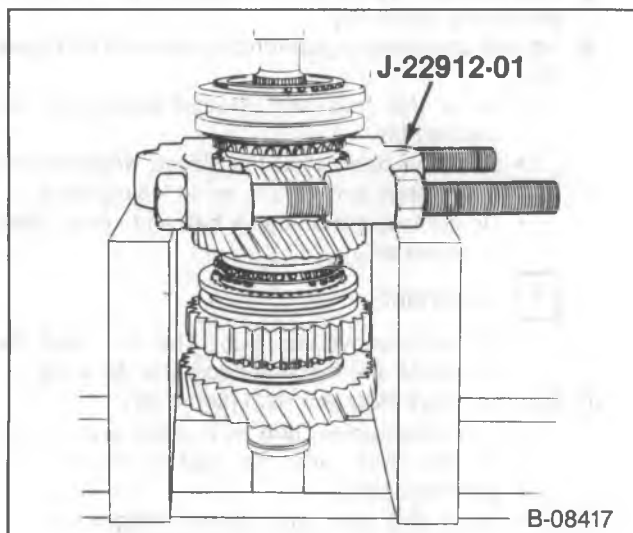

Figure 19—Removing the 3rd and 4th Synchronizer
1. 4th speed blocker ring (661).
2. 3rd and 4th synchronizer and the 3rd speed gear (664).
- Press the mainshaft through the synchronizer, the blocker ring and the gear using J 22912-01 (figure 19).